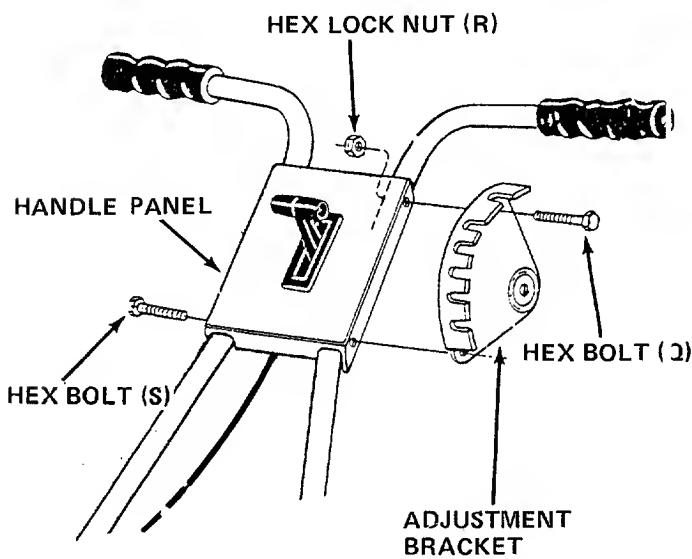

FIGURE 8
- Place the handle panel over the upper handles and line up the holes. See figure 8.
- Secure the right hand side of handle panel with two one-inch long hex bolts (S) and hex lock nuts (R). Do not tighten.
- Secure the adjustment bracket to the left hand side of handle panel with 1-1/4 inch long hex bolts (Q) and hex lock nuts (R). See figure 8.